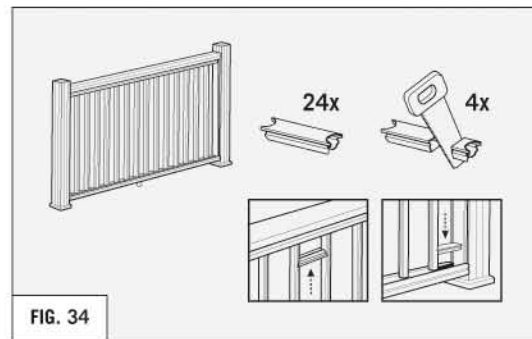

FIG. 34
7. Install baluster spacers. (REFER TO FIG. 34)